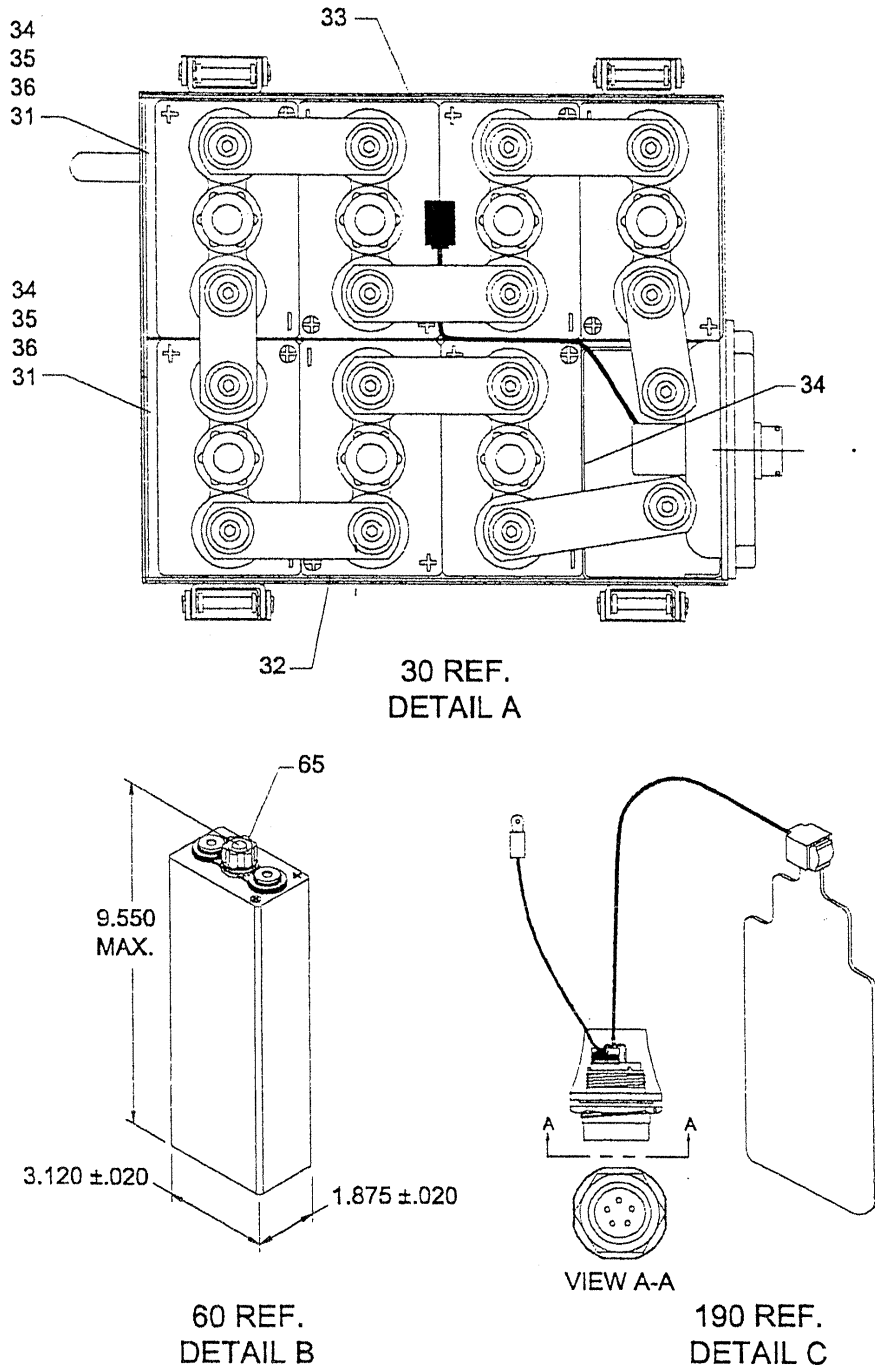

Figure 2
- (1) Start the cell (60) installation with cell number four. Install the plate of temperature sensor assembly (190) between cell (60) number two and number three. Position the wires from the temperature sensor assembly (190) as shown in Figure 2.
- (2) Install the shims (30) as you insert each cell (60) into the marked can assembly (10). Position the shims (30) for each cell (60) as shown in Figure 2.
- (3) Insert the shims (30) and the cells (60) in a counter-clockwise sequence, except for the number two and number six cells.
- (4) Install the shims (30) as you insert the number two and number six cell (60) into the marked can assembly (10).
- (c) Install the inter-cell connectors (40 and 50) and the end-cell connectors (120 and 130) with washers (110), washers (100), and screws (90). The screws (90) must only be finger-tight at this step in the procedure.
- (d) Tighten the screws (90) in the sequence that follows: